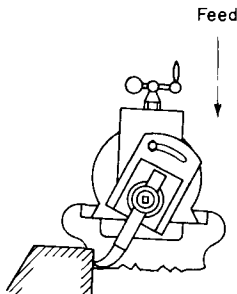

Fig. 4.213 Machining a vertical face
**Machining vertical and angular faces.** The methods are shown in Figs 4.213 and 4.214.